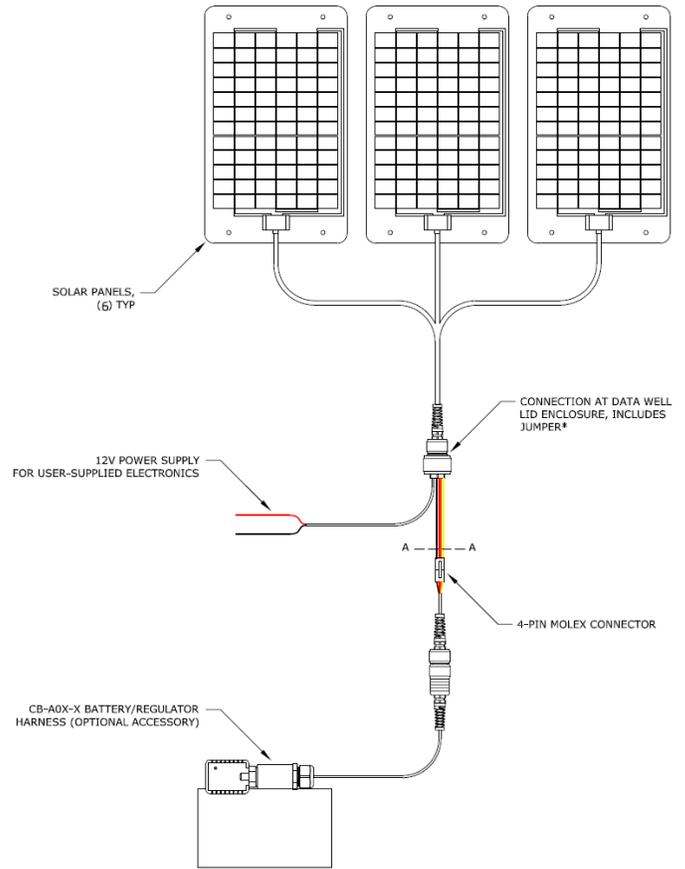

Figure 12: Wiring Schematic
Figure 12 shows a schematic drawing for the wiring of the CB-1250 power supply. The system includes (6) 30-watt solar panels that connect through the *SOLAR* port on the data well plate to the *CB-A05-2/3* or user-supplied battery/solar regulator harness. A wire lead is provided to supply 12V DC power to electronics inside the data well (red = +12V, black = GND).
For systems with user-supplied battery and solar regulator, the battery and regulator can be connected through the 4-pin Molex connector or by cutting the wires at section A-A in Figure 12 and splicing the connections. In these situations, reference the signals listed in Table 2.